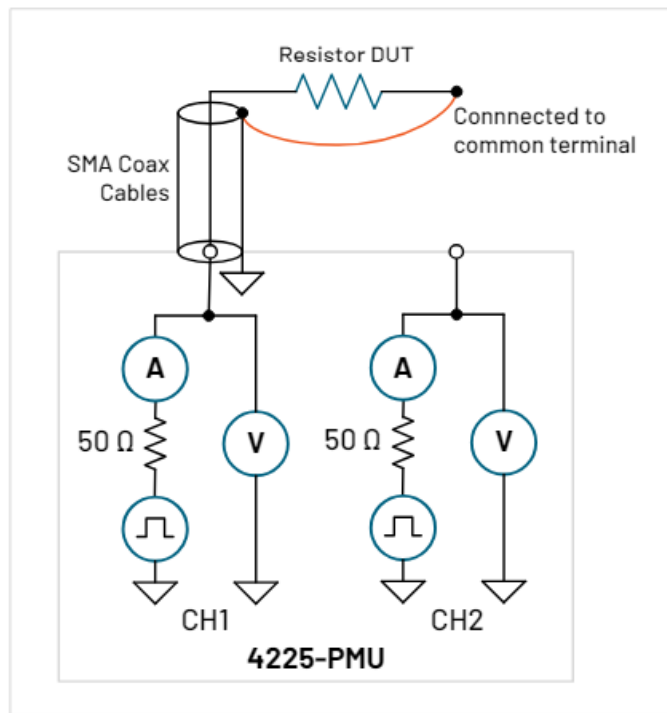

Figure 2. Connecting PMU CH1 to a resistor.
The following pulse IV programming example generates an IV sweep on a 1 kohm resistor. As illustrated in Figure 2, one end of the resistor is connected to the center conductor of the coax cable (HI) of PMU CH1 and the other side of the resistor is connected to PMU common (LO), or the outside shield of the coax cable.